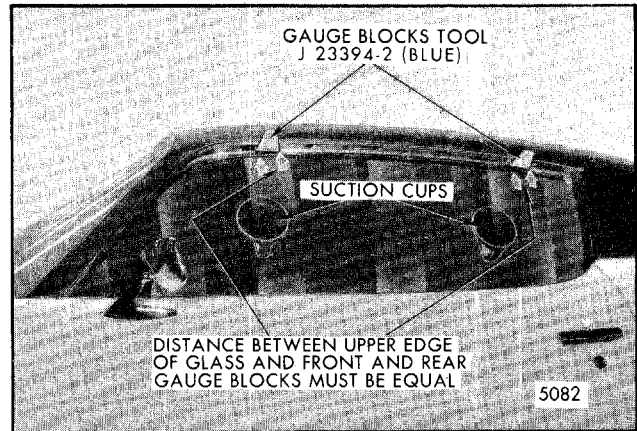

Fig. 5-126-Door Window - Rotated Glass Alignment - "F" Styles
2. Lower window and install gauge blocks, tool J- 23394-2 (blue) or equivalent, into side roof rail weatherstrip retainer as shown in Figure 5-126 with handles outboard. Make sure gauge blocks are fully engaged in retainer. Install suction cups on interior glass surface to aid glass adjustment.
4. Parallel Alignment: With door closed, raise window to within 1" of full up position (Fig. 5-126). If edge of glass spacing to gauge blocks is not equal, adjust inner panel cam ("8").